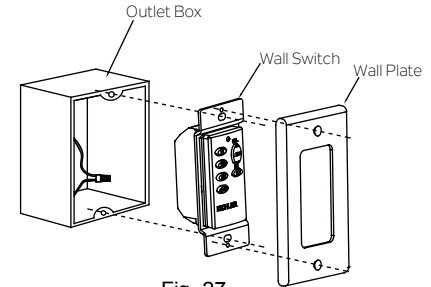

Fig. 27
Step 2. Use the screws provided to secure the wall transmitter to the outlet box.(Fig. 27)